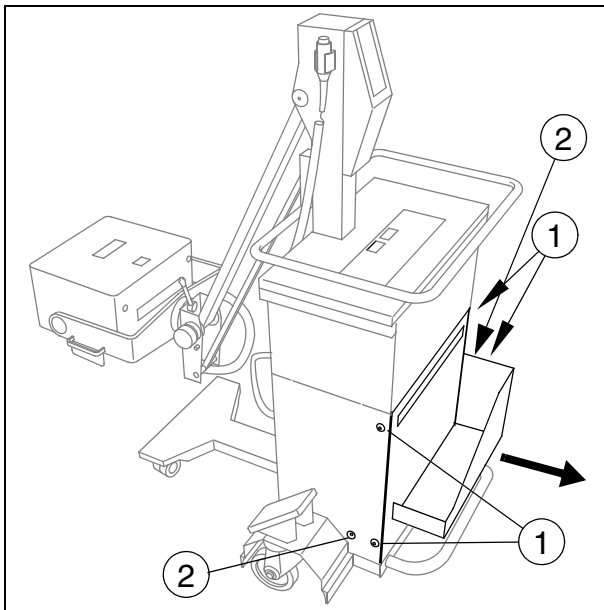

Fig. 10
- Remove the 2 cover screws on each side (1/ Fig. 10) and remove the cover (with cassette drawer).
- Remove one cover screw on each side (2/ Fig. 10).